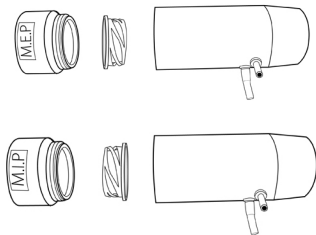

Figure 5: Orientation of one-way valve
- Check that the one-way valve is fitted in the correct orientation to the MIP and MEP flowhead (Reference Figure 5). Test the flowhead following instructions outlined in Section 5.2.